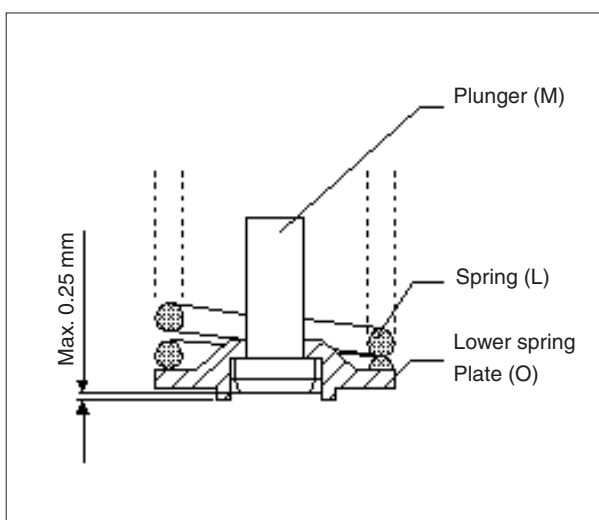

Fig. 3 Clearance between Lower Spring Plate and Plunger
14. The axial clearance between lower spring plate and plunger foot must not exceed 0.25 mm. The clearance between lower spring plate and plunger foot is 0.05 to 0.1 mm when new. See fig. 3.
15. Check the cavitation plugs (G) for wear and renew if necessary.
16. Barrel (E), plunger (M) and non-return valve (F) are manufactured to very close tolerances.